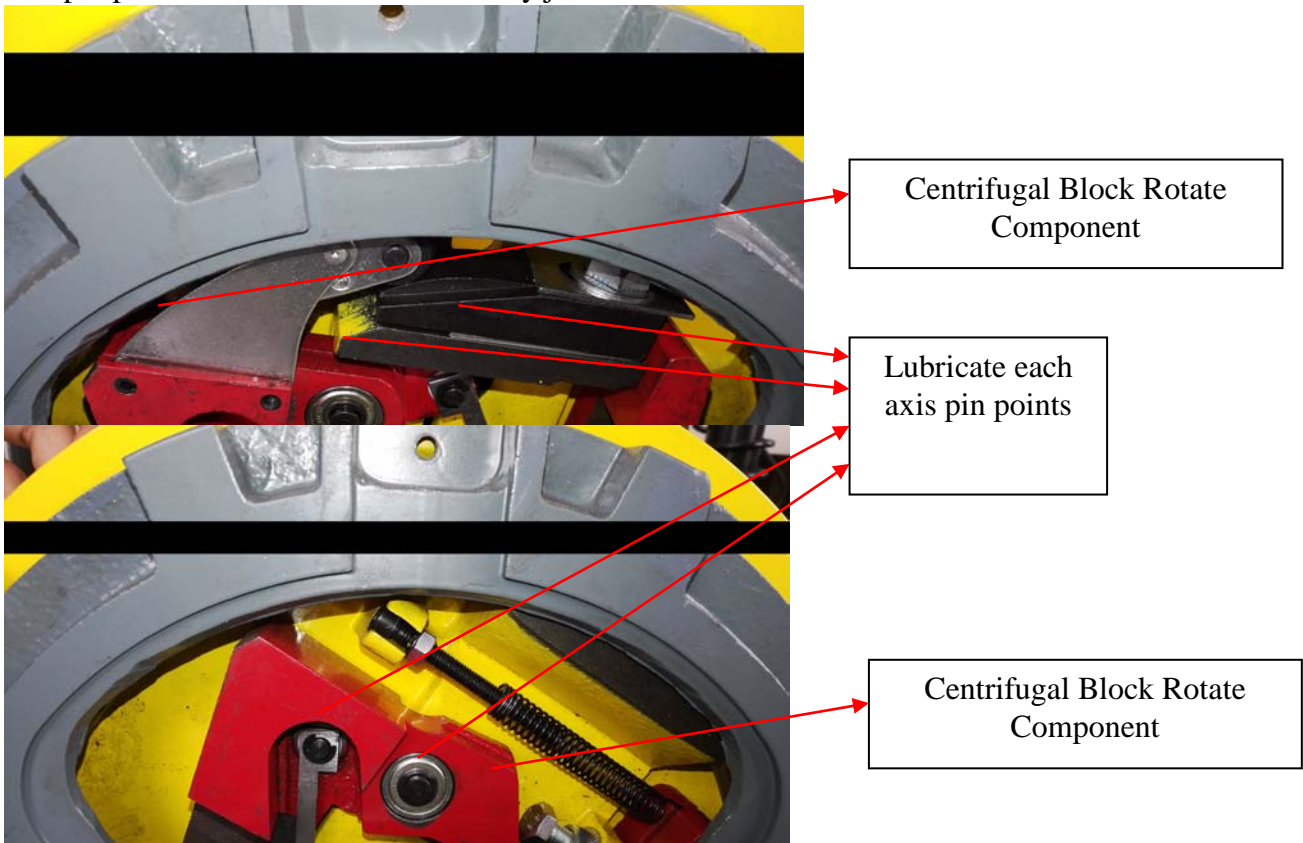

Figure 9
3.1.2.5 Lubricate the points of the sheave component shown as figure 9 and make sure that the axis pin points rotate flexible without any jam;